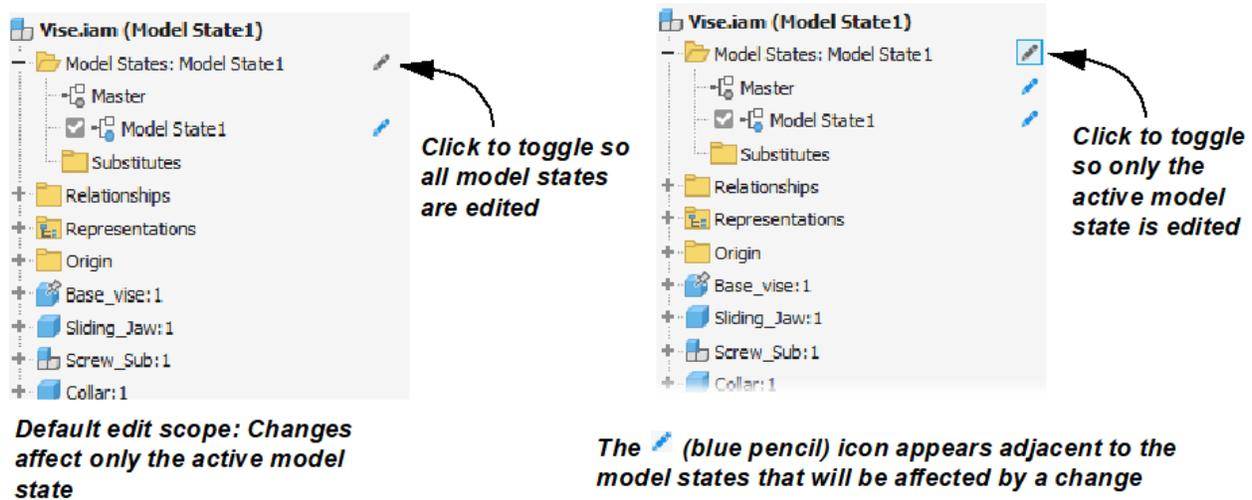

Figure 3
- By enabling the scope  to affect all model states (as shown for an assembly in Figure 3), you can ensure the change is made to all model states. When enabled, the  (blue pencil) icon appears adjacent to all model state names, indicating they will all be edited.